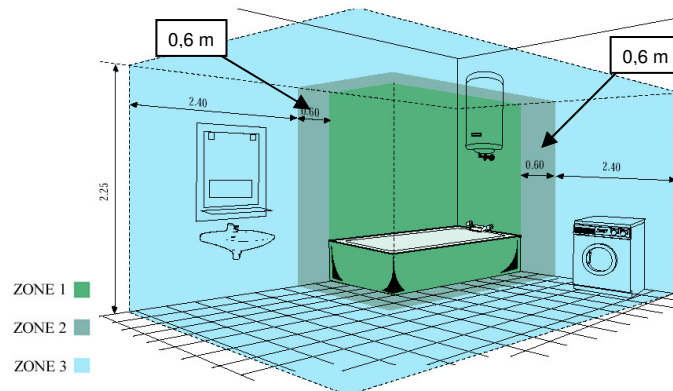

Figure 1: Classification of the Bathroom Zones
- The electronic thermostat can be class 1 or class 2 apparatus and it is protected from water contact. In the bathroom it must be mounted in the zone 3 (see figure 1) in order to avoid people using the bath or the shower to get in touch with it.